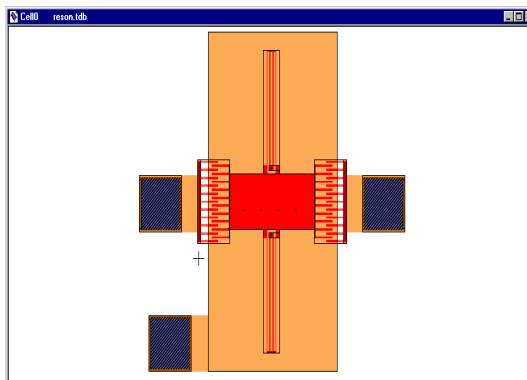

Figure 26: Layout view of the resonator
- ☒ Using the **File > Open** command, open the **reson.tdb** file (Figure 26) .